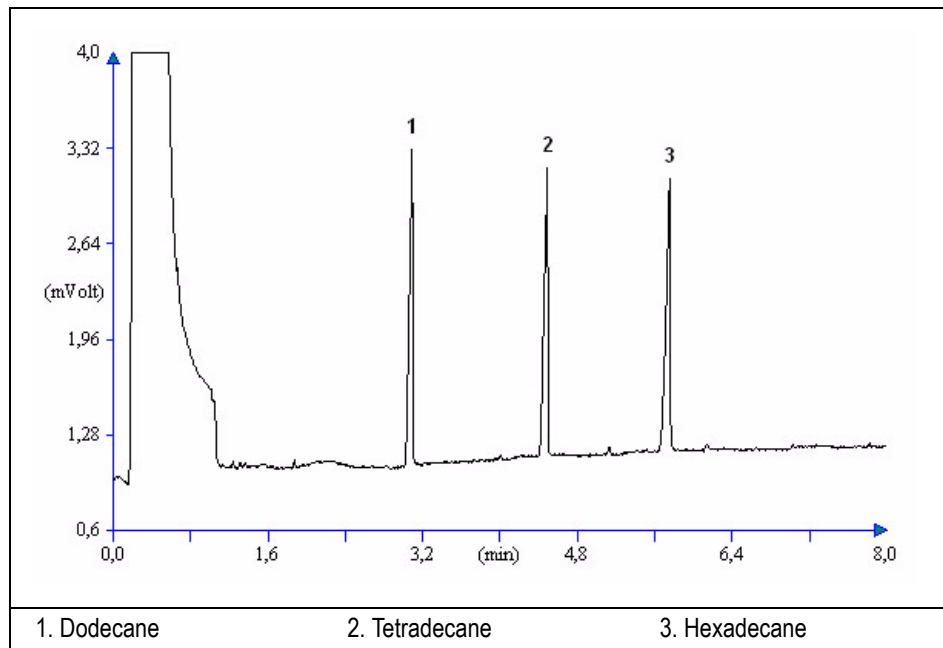

Figure 13-1. TCD-Splitless Injection
23. Inject the test mixture and press **START** on the GC to begin the checkout run. The resulting chromatogram should look like the one shown in Figure 13-1.